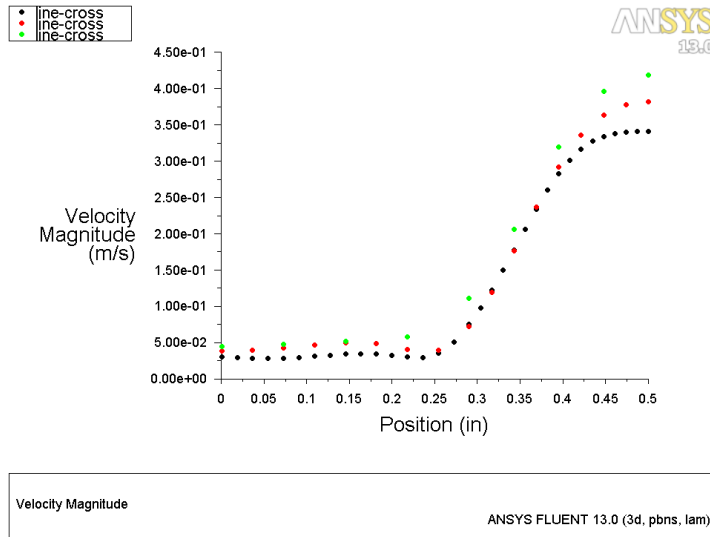

Figure 26: Comparison of Velocity Profiles After Two Mesh Adaptions
- Figure 26 shows the predicted velocity profiles for the three mesh refinement levels. The velocity profile approaches a shape that is independent of the mesh.